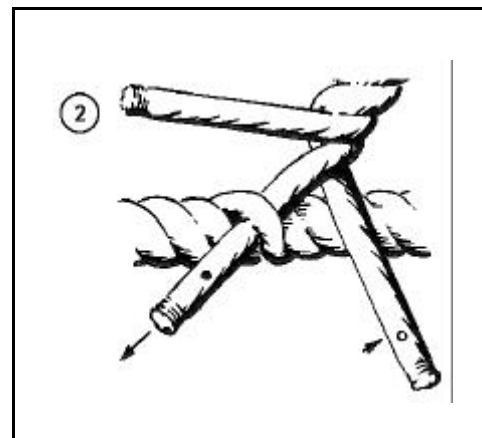

Figure 12-30. First Two Tucks in an Eye Splice
- **Step 2.** Be sure to keep the next strand on the side of the line that is towards you. Tuck that one next. Put it over the strand under which the first one is tucked, and tuck it under the next one (Figure 12-30).